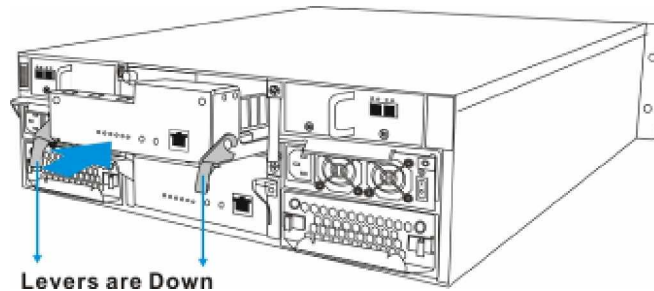

Figure 5-4: Installing the Controller Module
-  **Step 3. Install the controller module.** Make sure the levers at the back of the controller module are down. Align the controller module with the controller module bay at the rear of the subsystem. Gently slide the controller module in. (See Figure 5-4)